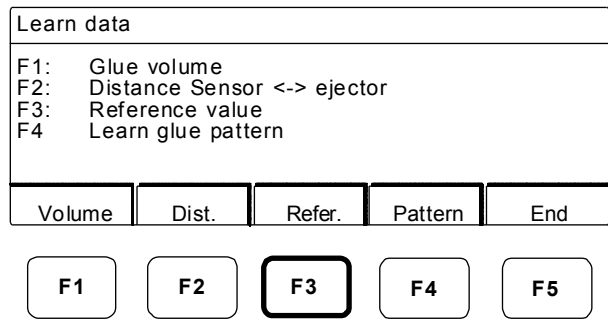
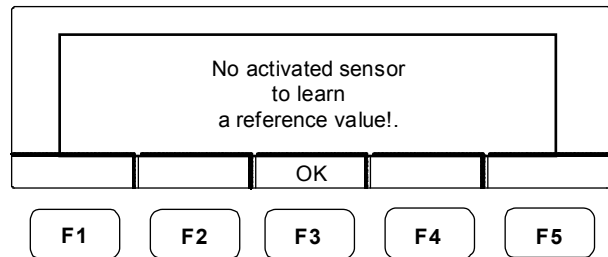
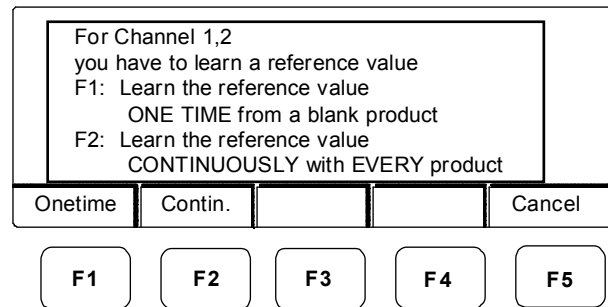

Figure 13-12. The Learn data screen
Figure 13-13.
Figure 13-14.
1. At the “Learn data” screen (Figure 13-12), press F3 (Refer.). If the conditions listed above are not met, the screen in Figure 13-13 displays. Press the “OK” button, correct the condition, and repeat step 1. If the conditions above have been met, the screen in Figure 13-14 displays. Go to step 2.